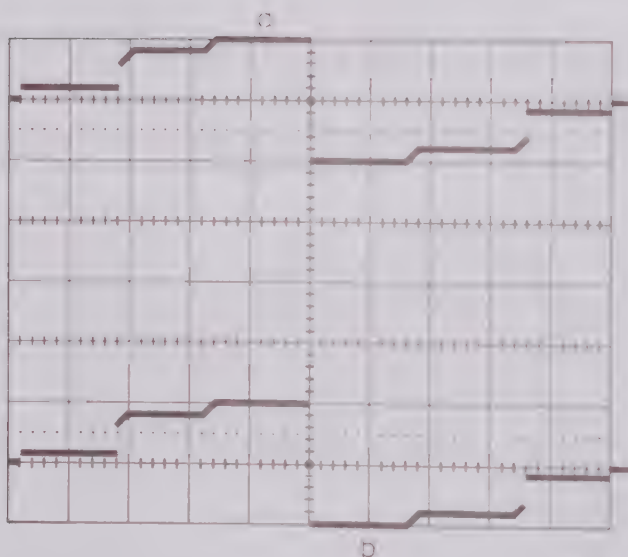

Figure 9.2 Service menu DISPLAY 6.
- Adjust the Y/5 gain R2516 on unit A1 so that the vertical distance between the two horizontal lines is 8 div (max. deviation 0,1 div) such as given in figure 9.2 (lines a and b).